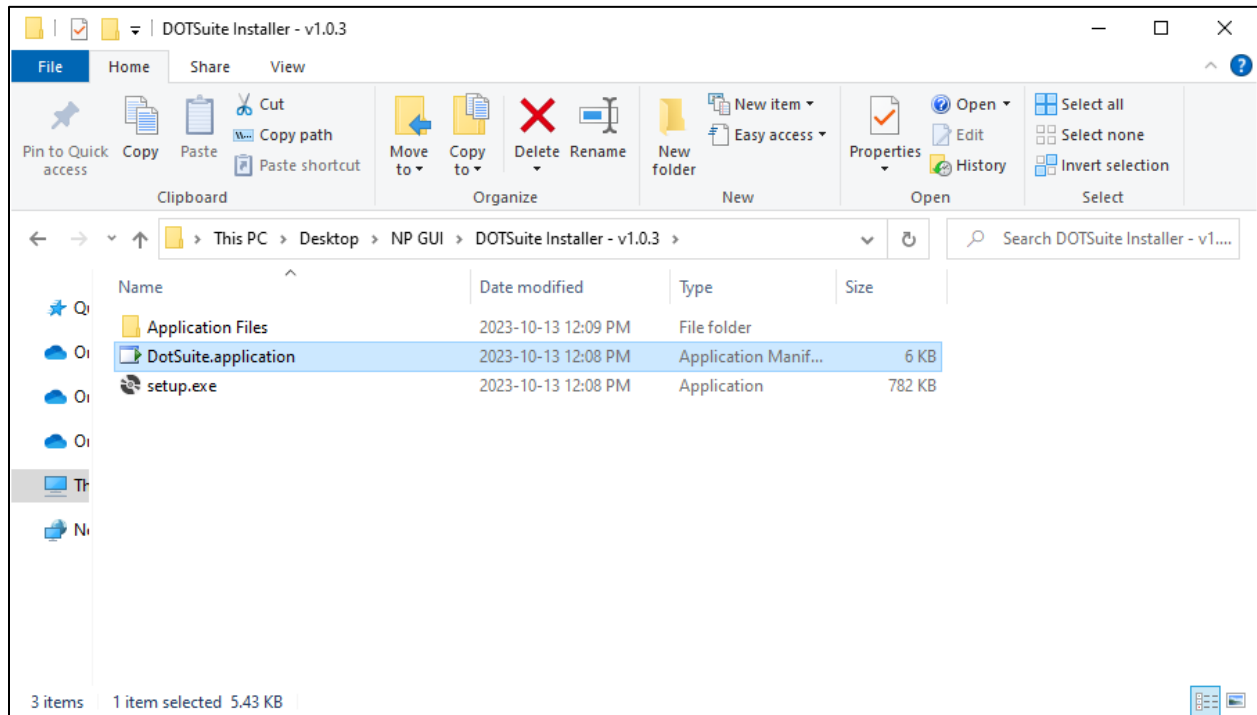

Figure 1: DOT Suite Installer folder.
- Double click “DotSuite.application” to begin the installation process – Figure 1.